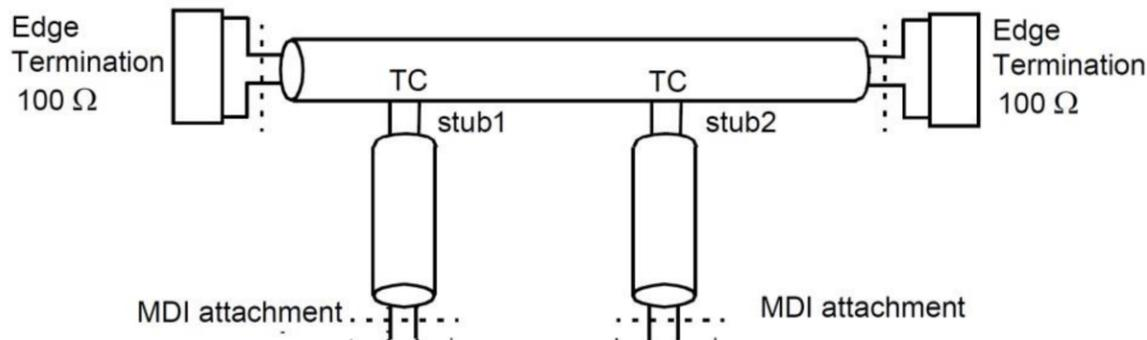

Figure 168–x Mixing segment and reference points
Figure 168–x shows an example mixing segment with reference points. The mixing segment specifications in 168.6 are referenced to these designated points and are to be met without the MDI or other loads attached. The mixing segment specifications are based on a trunk-stub configuration. Other configurations may be possible, provided they meet the electrical parameters in this 168.6. The example configuration assumes that the trunk comprises TBD m of 1.02mm (18 AWG) 100 Ω cabling and the stubs are 100 Ω balanced pairs of conductors up to 30 cm long. The trunk is terminated at each end into 100 Ω , at a point designated the ‘edge termination’. One end of the stub is designated the trunk connection (TC) and the other designated the ‘MDI attachment point’.